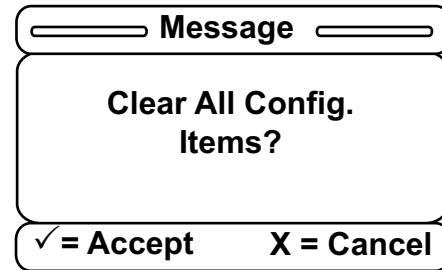

Figure 62 – Confirmation screen
35. After you select **Clear All**, the **Clear All Config. Items?** confirmation screen displays (Figure 62).